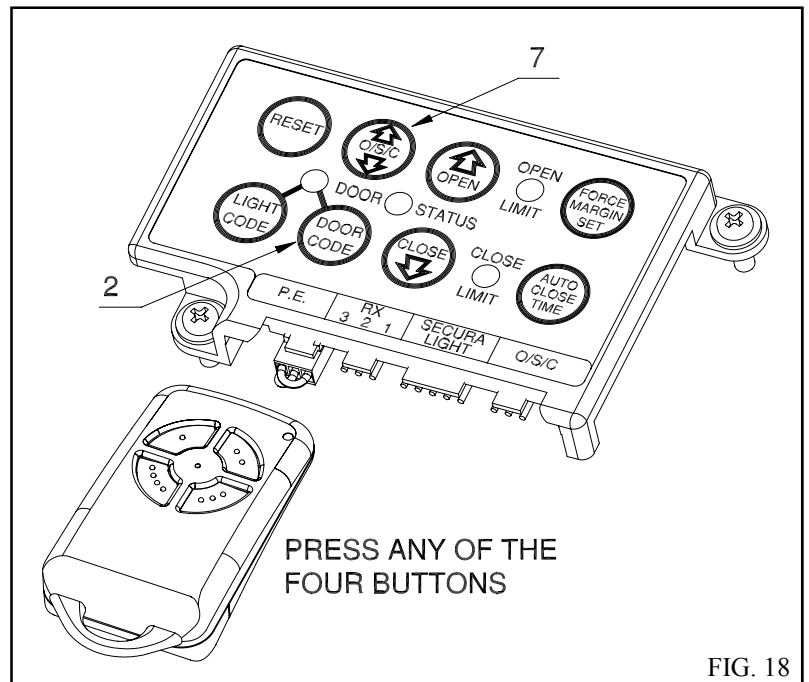

FIG. 18
1. Open the door by pressing the Yellow O/S/C button 7 (Fig 18).
1. Close the door by pressing the Yellow O/S/C button 7. (Fig 18).
1. **Press and hold** the blue Door Code button on the Control Panel button 2 (FIG. 18).
2. Press the button (one of four) on the Transmitter you would like to use to control the door for approximately two seconds, (FIG. 18). Pause for two seconds. Press the same button again on the Transmitter for approximately two second.